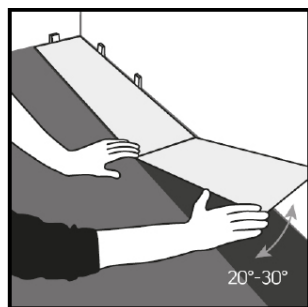

FIG 2
- Install the first row, ensuring the short edges are clicked together (Fig. 2).